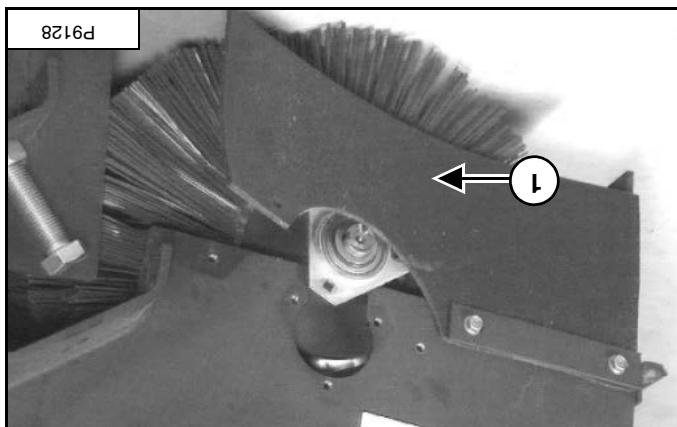

Figure 115
frame [Figure 115].
The rubber side cover (item 1) [Figure 115] (both ends),